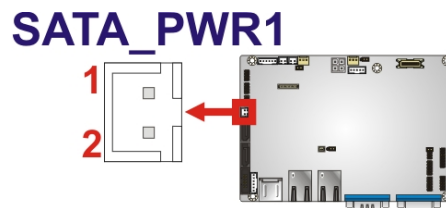

Figure 3-18: SATA Power Connector Locations
- CN Location:** See **Figure 3-18**